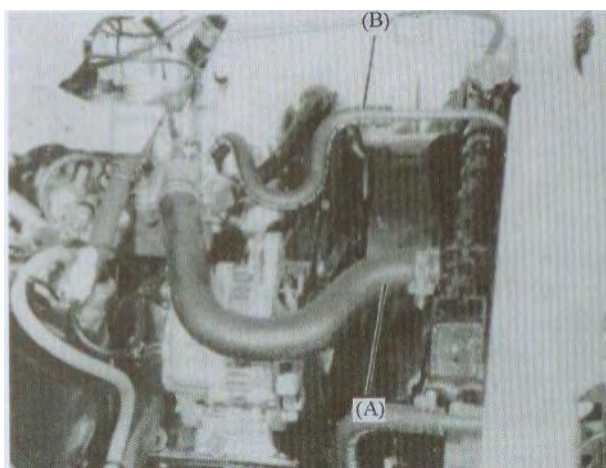

FIG.6-9 (see fig.7-10 of service manual for HFJ6351B)
- (3) Disconnect radiator inlet hose (A), if equippe with brake booster, disconnect vacuum hose. (B) (FIG.6-9)。